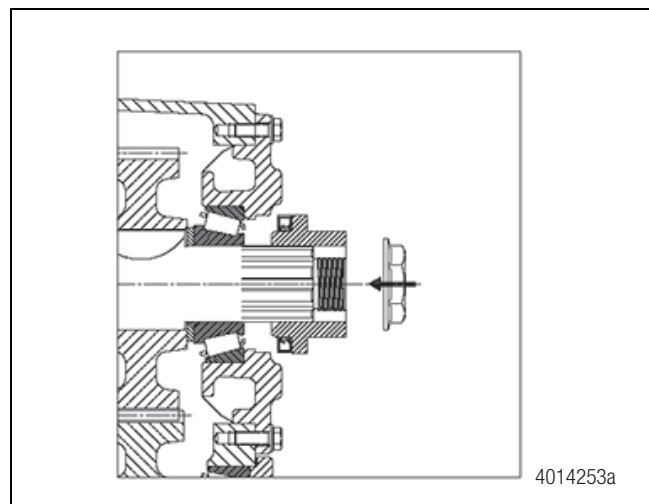

Figure 8.3
8. Place seal driver on shaft. For input location, drive seal into bore with old nut (688-0738). For Front and Rear output locations, drive seal into bore with old retaining nut. Seal driver will stop when seal is fully seated against shoulder on housing carrier bore. Input installation shown in Figure 8.3.